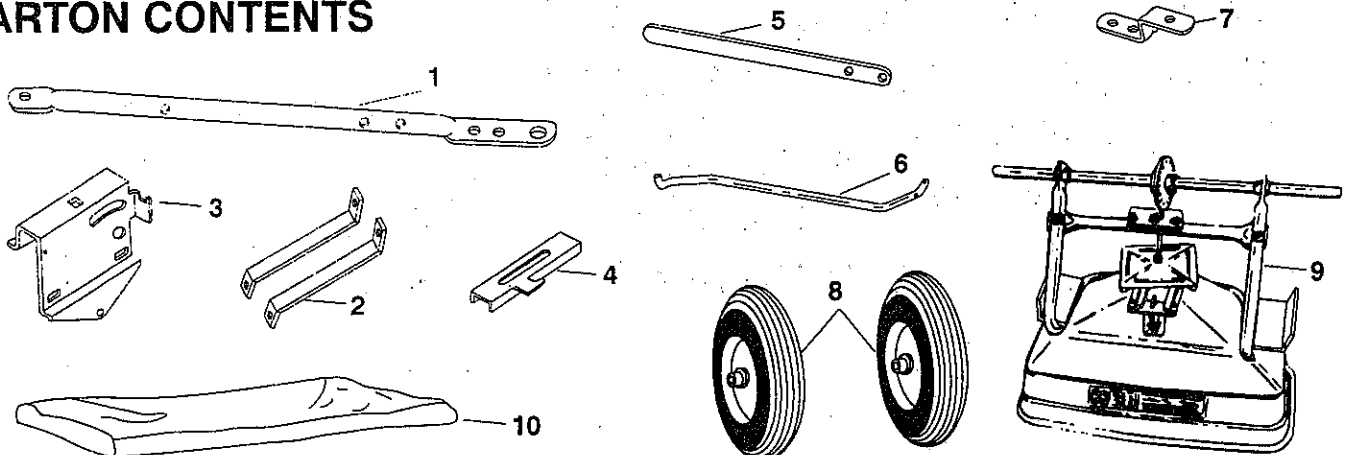

FIGURE 1
Your broadcast spreader carton contains parts as shown in figure 1. The hardware package contains parts shown in figure 2 on page 3. Identify all parts and layout as shown in figures 1 and 2.
1. Remove the spreader, loose parts and hardware package from the carton. See figures 1 and 2.